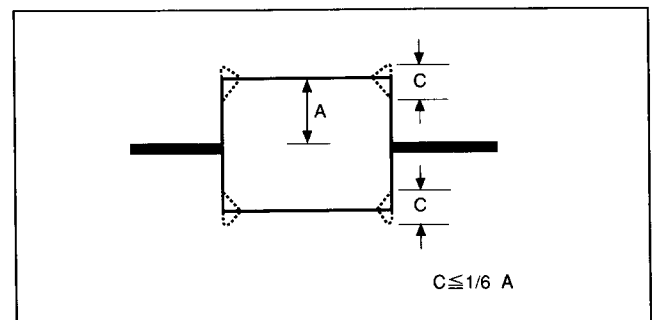

Fig. 33
- 3) Confirm that the RF waveform does not have too much fluctuation. (Refer to Fig. 33)